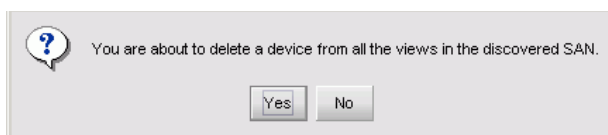

Figure 3-30 EFCM or SANavigator Message Dialog Box
- b. Select the *Delete* option from the pop-up menu. The *EFCM* or *SANavigator Message* dialog box displays (Figure 3-30).